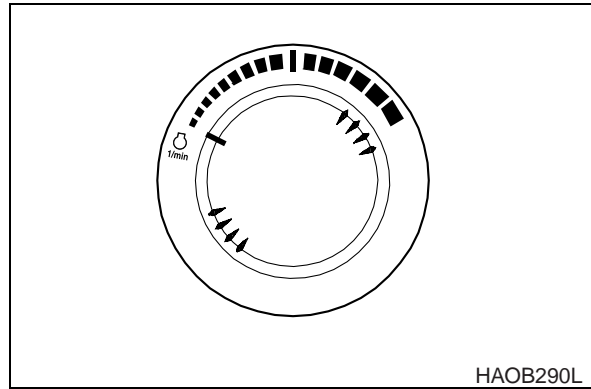

Figure 24
3. Set engine speed control dial to "LOW IDLE" (Figure 24). Allow engine to idle for 3 - 5 minutes.